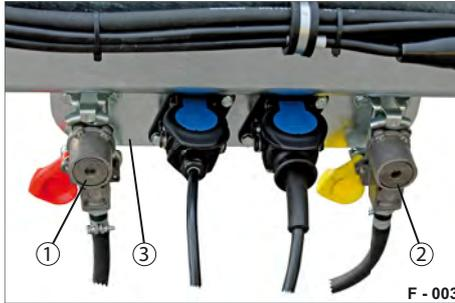

Fig. 6 Connections parked
- ▶ Unscrew the coupling heads out of the park holders of the park console (Fig. 6/3).
- ▶ Screw the coupling heads on the park holders (see Fig. 6).